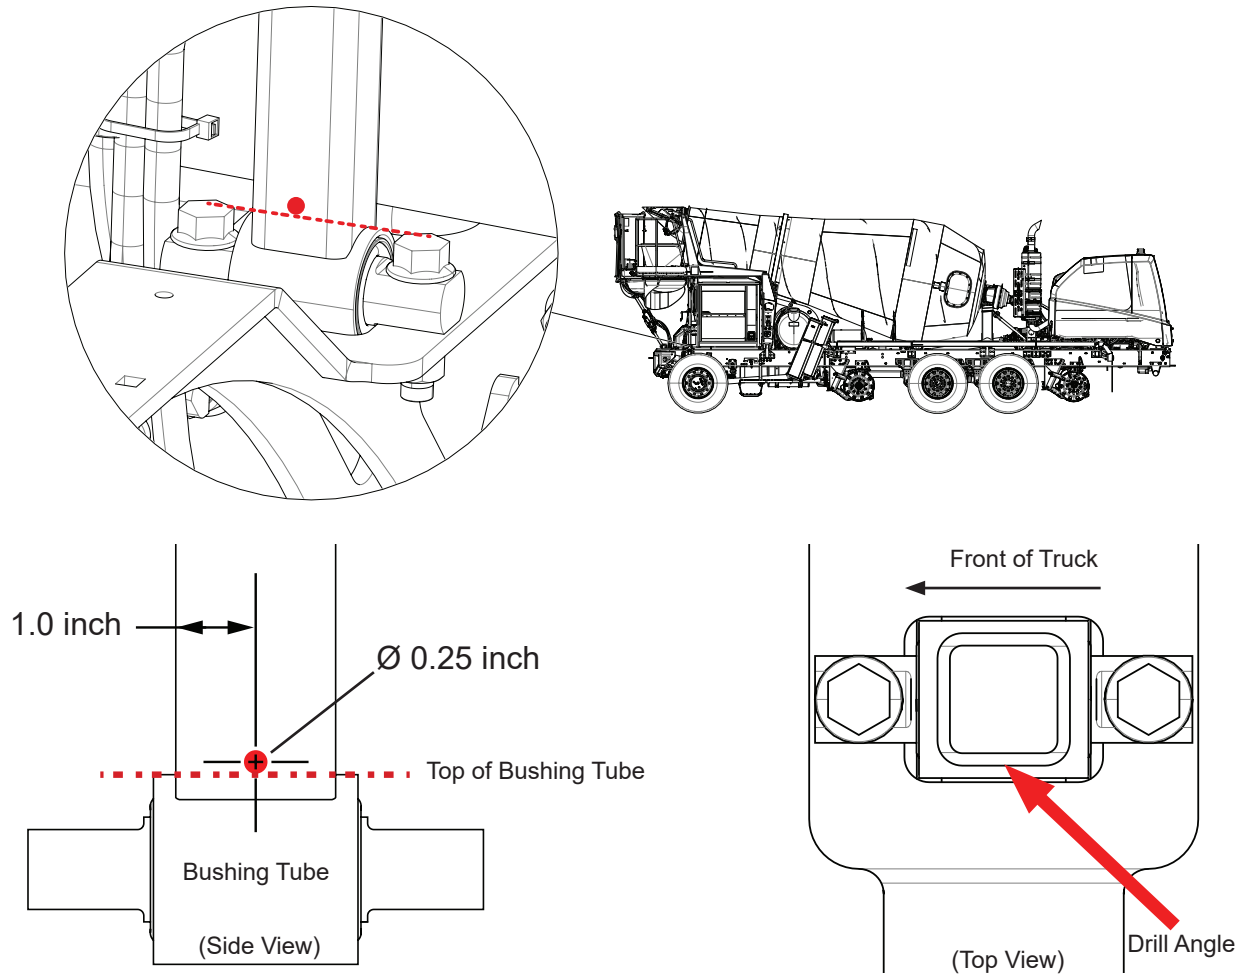

Figure 4 Left-Hand Super Structure Support
9. Measure and mark the drain hole location on the left-hand superstructure support, see Figure 4.
11. Drill drain hole parallel with the ground and angled toward the rear of the truck. See Figure 4.